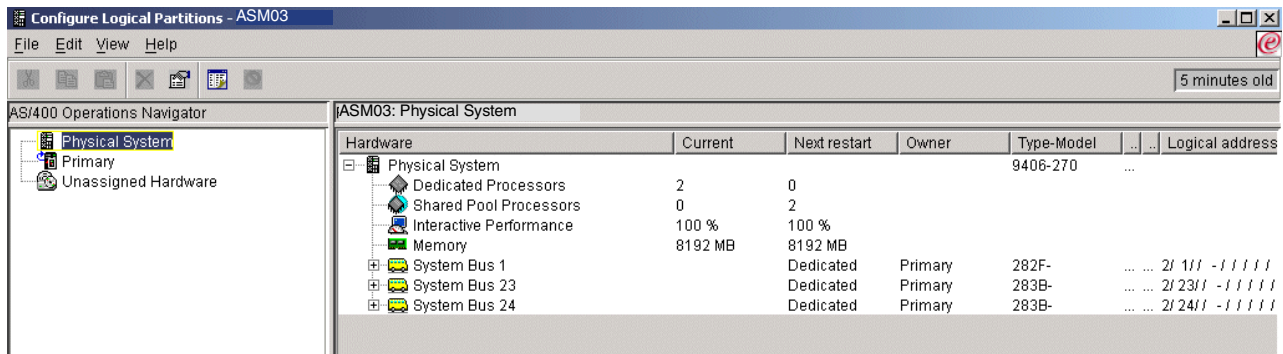

Figure 4-42 Configure Logical Partitions main window
5. Right-click **Systems with Partitions** and select **Configure Partitions**. This opens the Configure Logical Partitions window as shown in Figure 4-42.